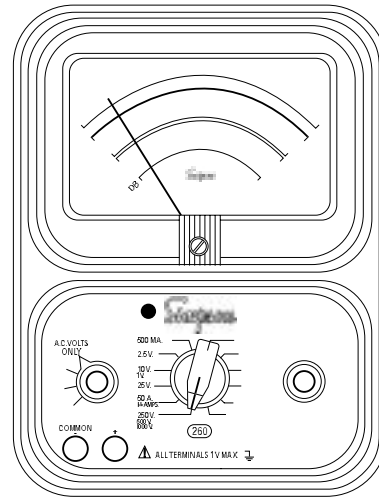

Figure 4-11. Jacks and Switch Positions for Measuring Decibels
- b. Refer to Figure 4-11 for switch settings and jack connections.